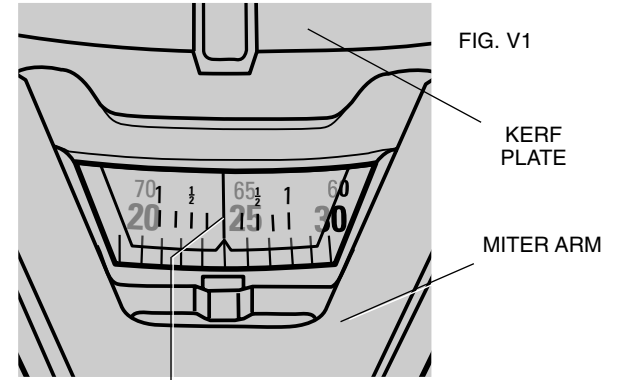

FIG. V1
VERNIER SCALE (FIG. V1, V2)
2. Set the miter angle to the nearest whole degree desired by aligning the center mark in the vernier scale, shown in Figure V1, with the whole degree number etched in the miter scale. Examine Figure V2 closely; the setting shown is 24 degrees right miter.